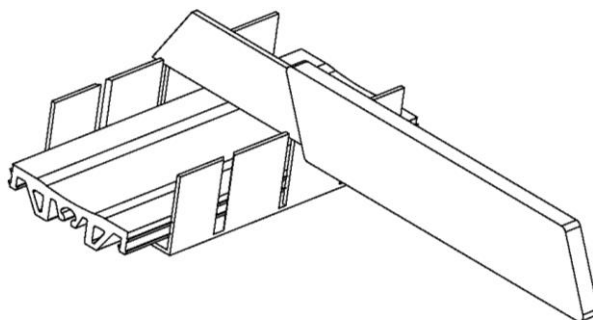

Figure 1
1. Position aluminum extrusions on the inside lip of the "T" grid as shown and attach with #6 self-drilling screws 18" on center (stagger seams, as necessary). **See Figure 1**
1. Position aluminum extrusion on the inside lip of the "T" grid as shown and attach with #6 self-drilling screws 18" on center. On the wall side, position the corner extrusion so the extrusions channels are level with each other. Fasten with drywall screws (by others) through the gypsum wallboard and into the steel stud (stagger seams, as necessary). **See Figure 1**
1. Determine the angle needed and cut ends of seal in a miter box with a sharp, non-serrated knife. **See Figure 1**